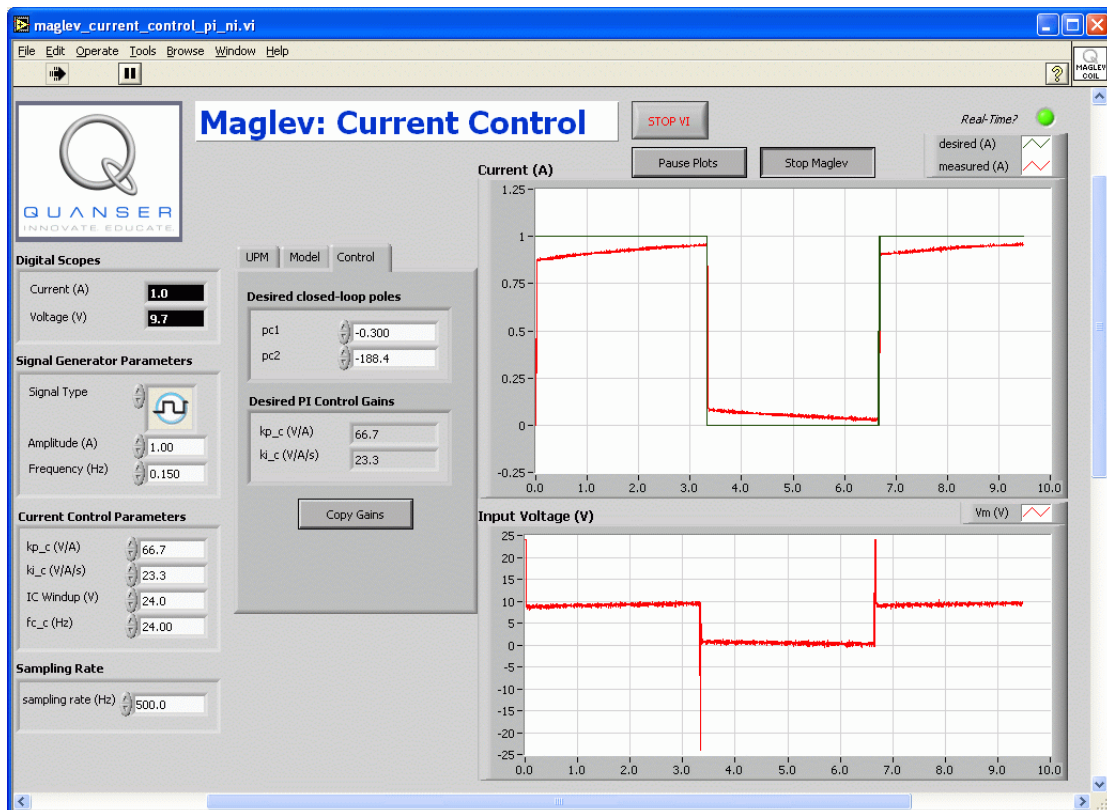

Figure 8 Current controller response.
Step 6. Run the VI by clicking on the white arrow button located in the top-left corner of the window. The red measured current should be tracking the desired blue current in the *Current (A)* scope, as shown in Figure 8. Also, the voltage being applied to the coils should not be saturated by the amplifier continuously (i.e. 24 V when using the Quanser UPM-2405).